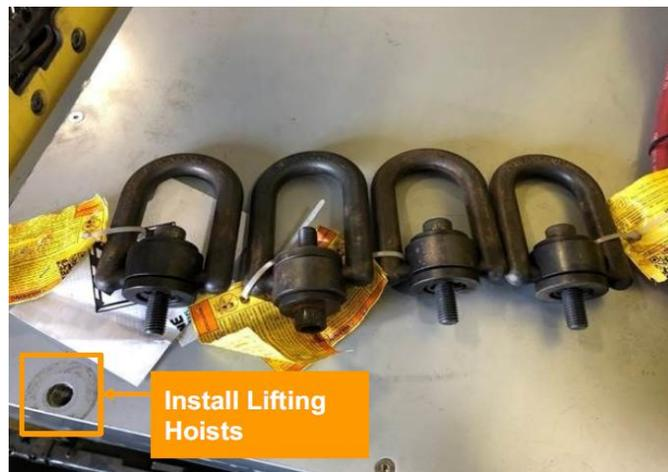

Figure 12: Image depicting where to install M14 lifting hoists on the battery.
2. Install the M14 lifting hoists onto the battery with the power drill (Figure 12).